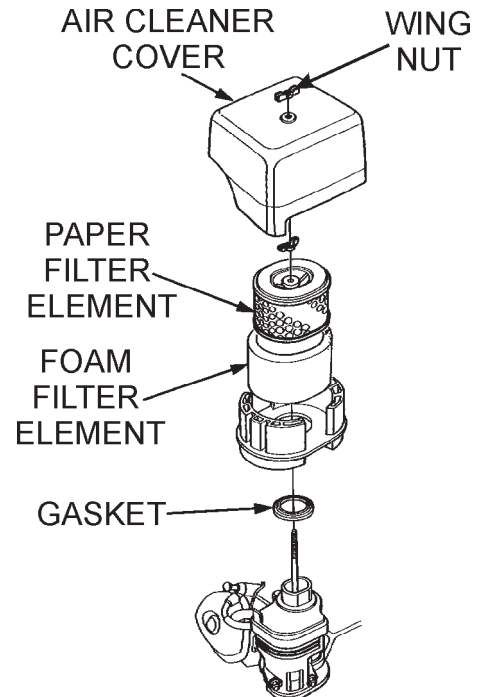

Figure 25. Engine Air Cleaner
- Remove the air cleaner cover and foam filter element as shown in Figure 25.